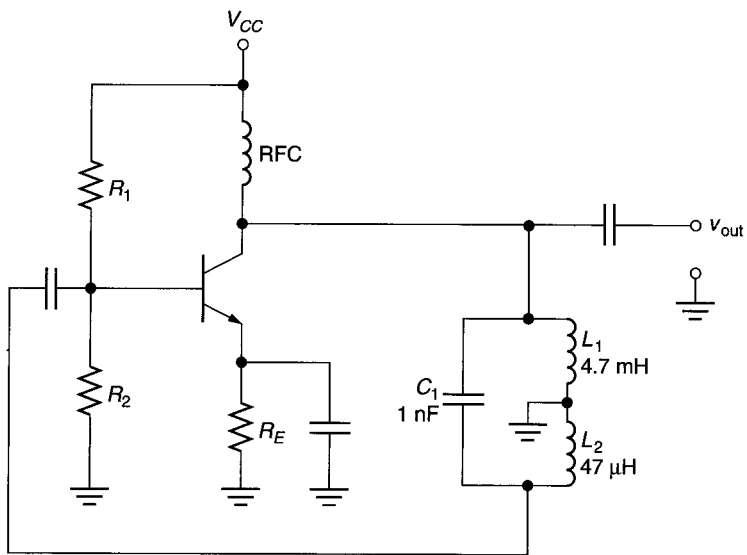

FIGURE 18.27
4. Calculate the value of  $\alpha_v$  for the circuit shown in Figure 18.27.
8. Calculate the operating frequency, the value of  $\alpha_v$ , and the value of  $A_v$  for the circuit shown in Figure 18.27.
9. A circuit like the one shown in Figure 18.27 has values of  $L_1 = 0.1 \text{ H}$ ,  $L_2 = 1 \text{ mH}$ , and  $C_1 = 22 \text{ nF}$ . Calculate the operating frequency, the value of  $\alpha_v$ , and the value of  $A_v$  for the circuit.
15. Refer to Figure 18.27. Use circuit calculations to show that the circuit fulfills the Barkhausen criterion.